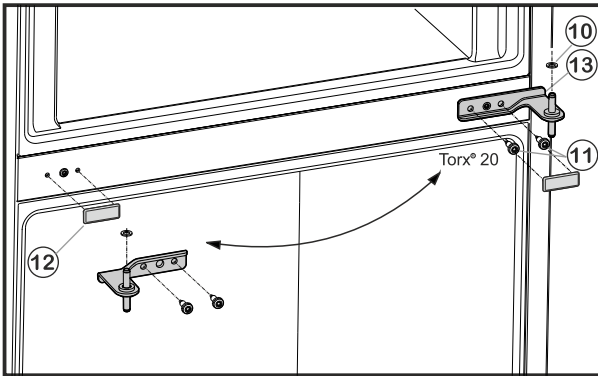

Fig. 6
- ▶ Unscrew the fastening screws *Fig. 6 (11)* (2 x Torx® 20) and pull the centre bearing block out of the lower door.
- ▶ Remove plastic washer *Fig. 6 (10)*.
- ▶ Remove the cover *Fig. 6 (12)* carefully.
- ▶ Re-install the cover *Fig. 6 (12)* on the opposite side.
- ▶ Insert the centre bearing block *Fig. 6 (13)* turned through 180° into the lower door and fasten firmly (**with 4 Nm**) to the new hinge side with the fastening screws *Fig. 6 (11)* (2 x Torx® 20).
- ▶ Refit plastic washer *Fig. 6 (10)*.
- ▶ Set the upper door down on the centre bearing block *Fig. 6 (13)*.